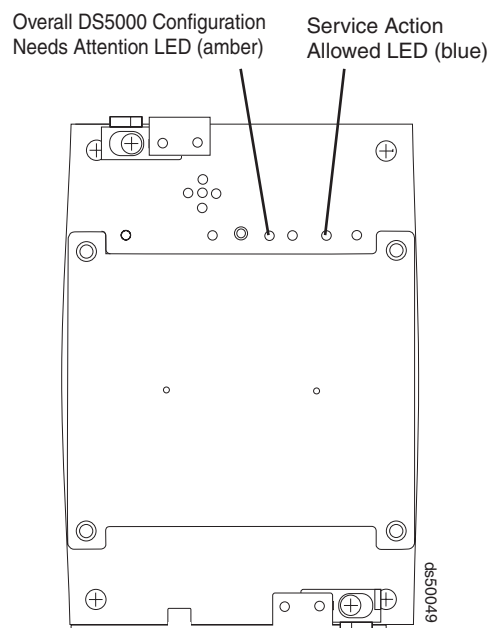

Figure 132. Interconnect-battery unit Needs Attention and Service Action Allowed LEDs
4. Is the Service Action Allowed status LED turned on? (Figure 132 shows the location of the Service Action Allowed status LED on the interconnect-battery unit.)